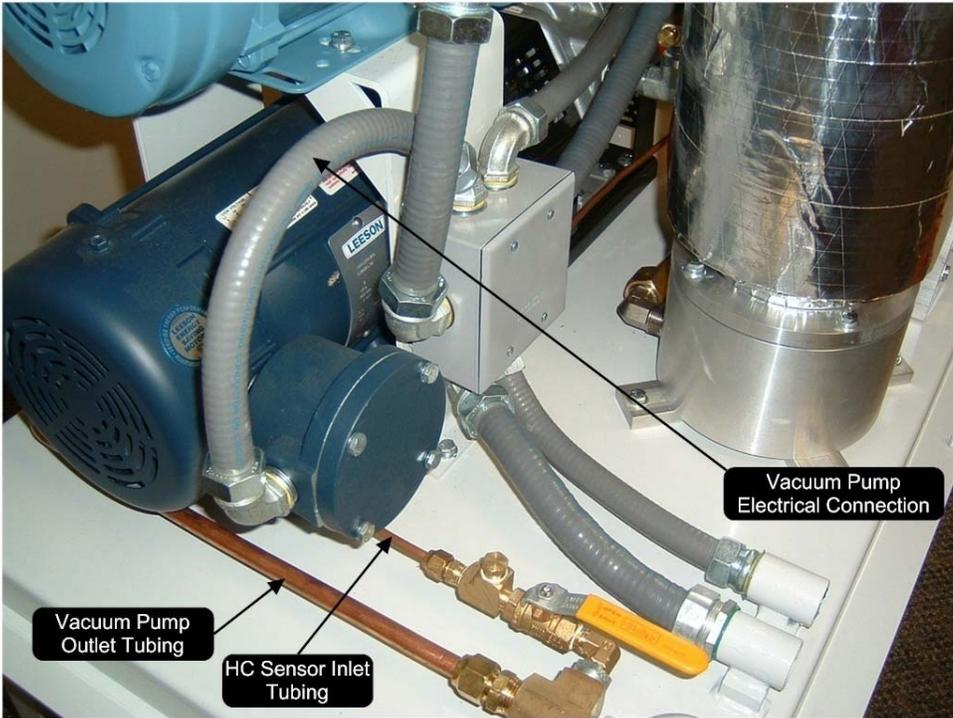
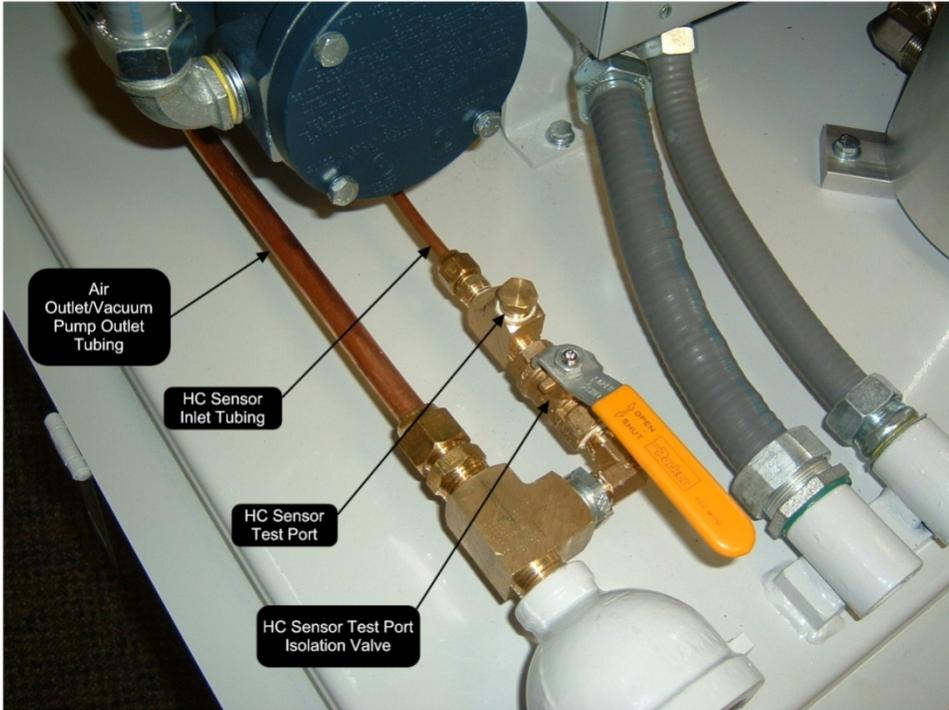

Figure 29: Vacuum pump electrical connection / vacuum pump outlet tubing / HC sensor inlet tubing
Figure 30: Air outlet / vacuum pump outlet / HC sensor inlet tubing
- See Figure 29 and Figure 30.
9. Remove (4) ¼" x 1-½" mounting bolts from the vacuum pump motor assembly base plate.
- Keep the (4) bolts for reuse or replace with new.
- Completely remove the vacuum pump ½" and ¼" inlet 45° flare tubing and all pipe fittings connected to the vacuum pump. See Figure 29.